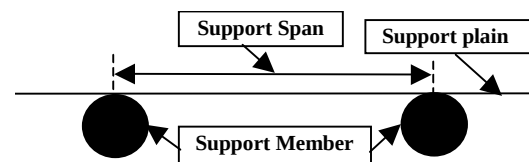

Figure 1
5.1.1.1 *support plain* — a support plain is defined as a horizontally ideal flat plain which is enhanced from a horizontally straight line defined from the top position of the support members, as shown in Figure 1.
5.1.1.2 *support member* — support member is a support device such as a support pin to support FPD substrates, as shown in Figure 1.
5.1.1.3 *support span* — support span is defined as at least the distance between two support members, as shown in Figure 1.